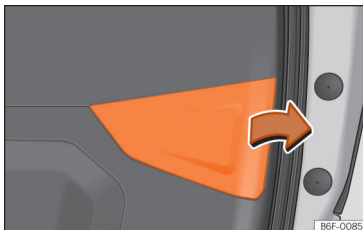

Fig. 173 Rear lid open: remove the lid.
- Remove the rear lid cover in the direction of the arrow >>> **Fig. 173**.